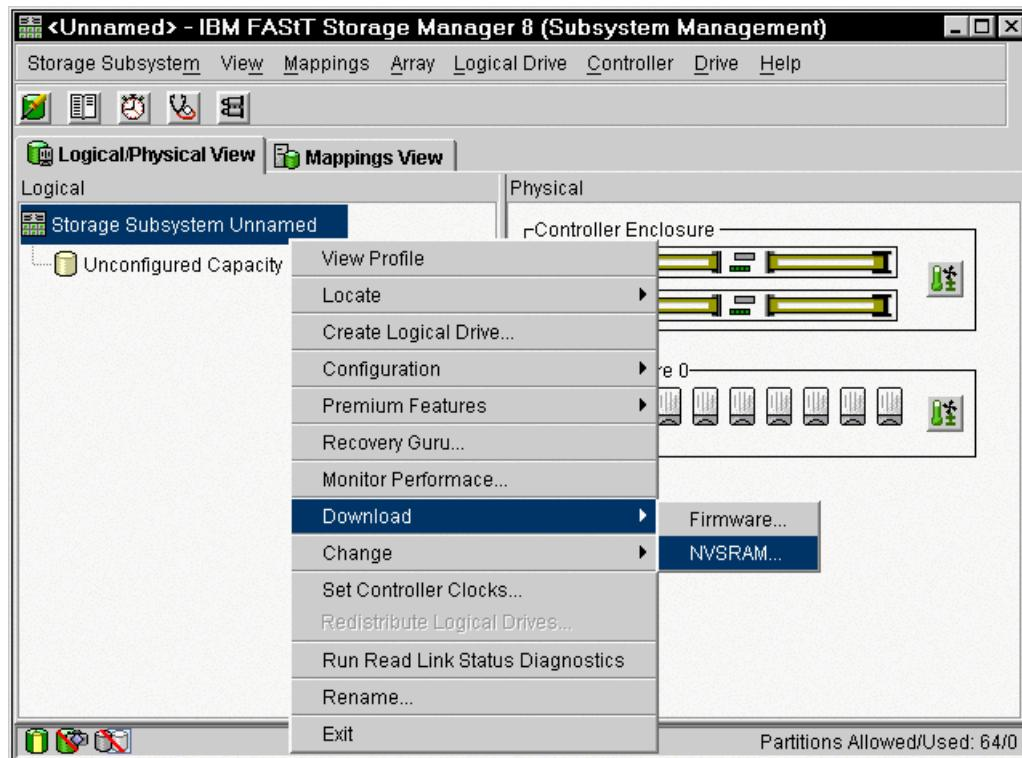

Figure 4-18 Subsystem Management window: Download-> NVSRAM
- Highlight the storage subsystem again and click **Storage Subsystem-> Download-> NVSRAM** as shown in Figure 4-18.